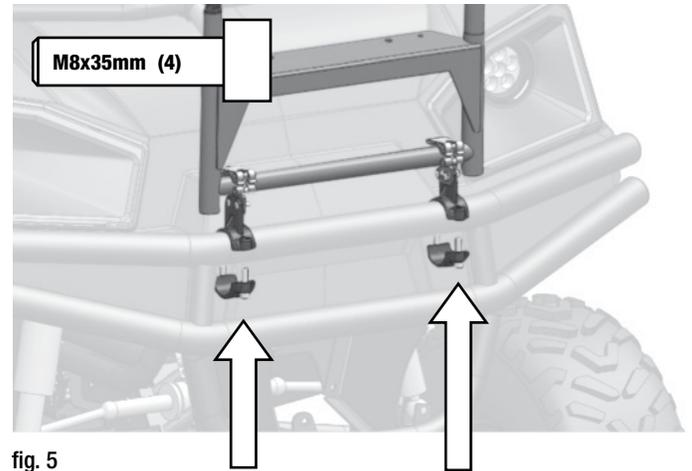

fig. 5
- 4 Using a #6 allen wrench, attach the two bumper mount clamps on the bumper Using (4) M8 x 35mm socket head bolts inboard of the 2 bumper upright tubes as shown in figure 5.